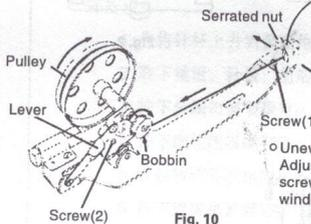

Fig. 10
2. Lead thread as shown by Fig. 10 and wind several times on bobbin.